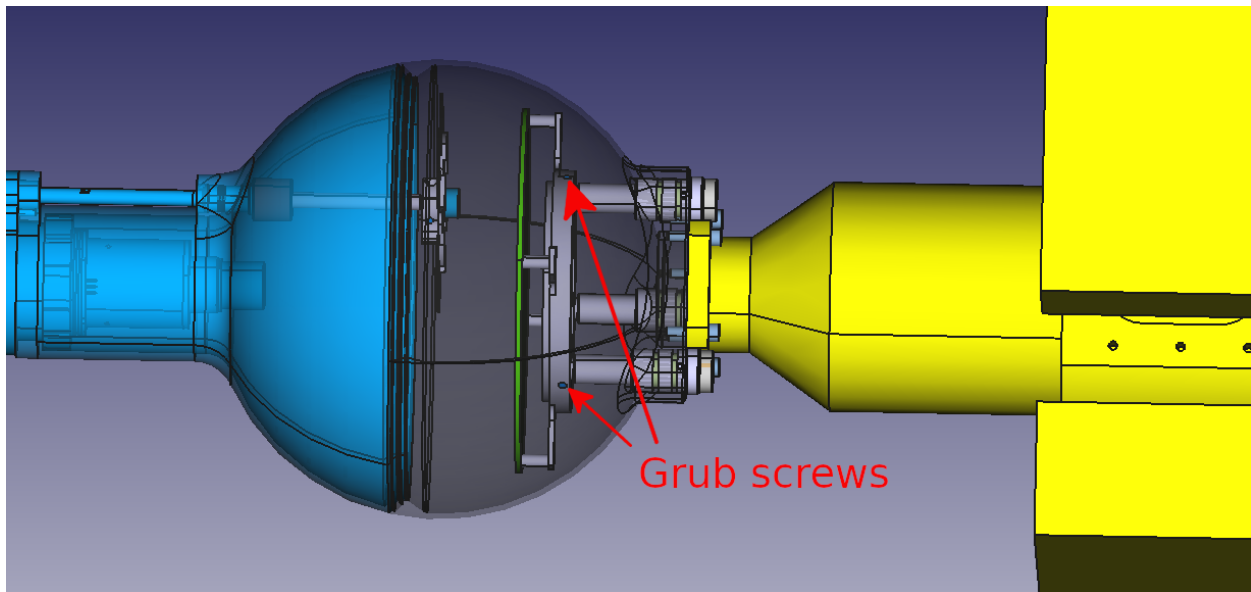

Figure 10: Two of the three grub screws behind the CD, which fix the backplate of the CD to the rods of the target chamber.
- 4) Loosen the two M1.6(?) hex grub screws (see Figure. 10) which secure the CD detector assembly to the three Miniball chamber support rods.